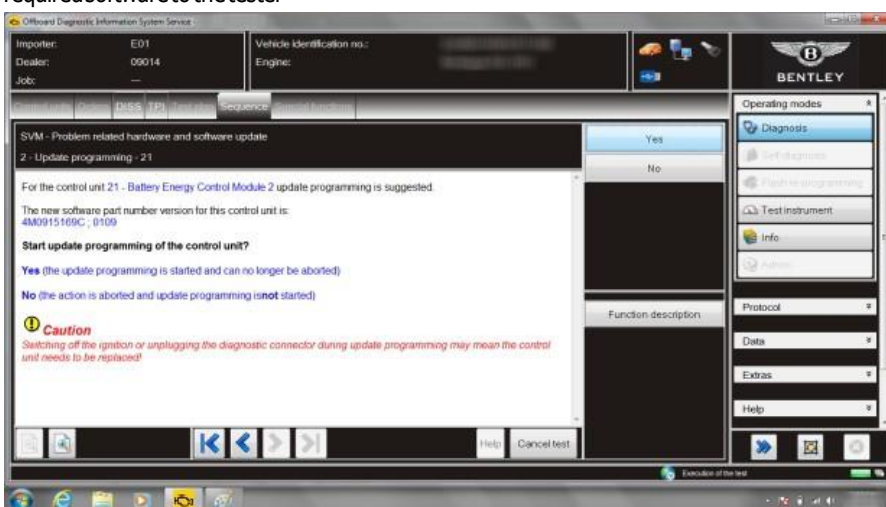

Figure 5
14. Select Yes at Update programming 21 to update 21 – Battery Energy Control Module 2 (see Figure 5)